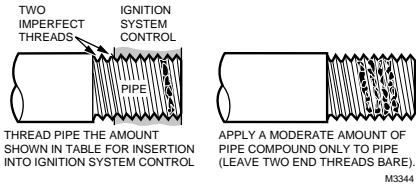

Fig. 3. Use moderate amount of pipe compound.
4. Apply a moderate amount of good quality pipe compound (do not use Teflon tape) only to the pipe, leaving two end threads bare. On LP installations, use a compound resistant to LP gas. See Fig. 3.